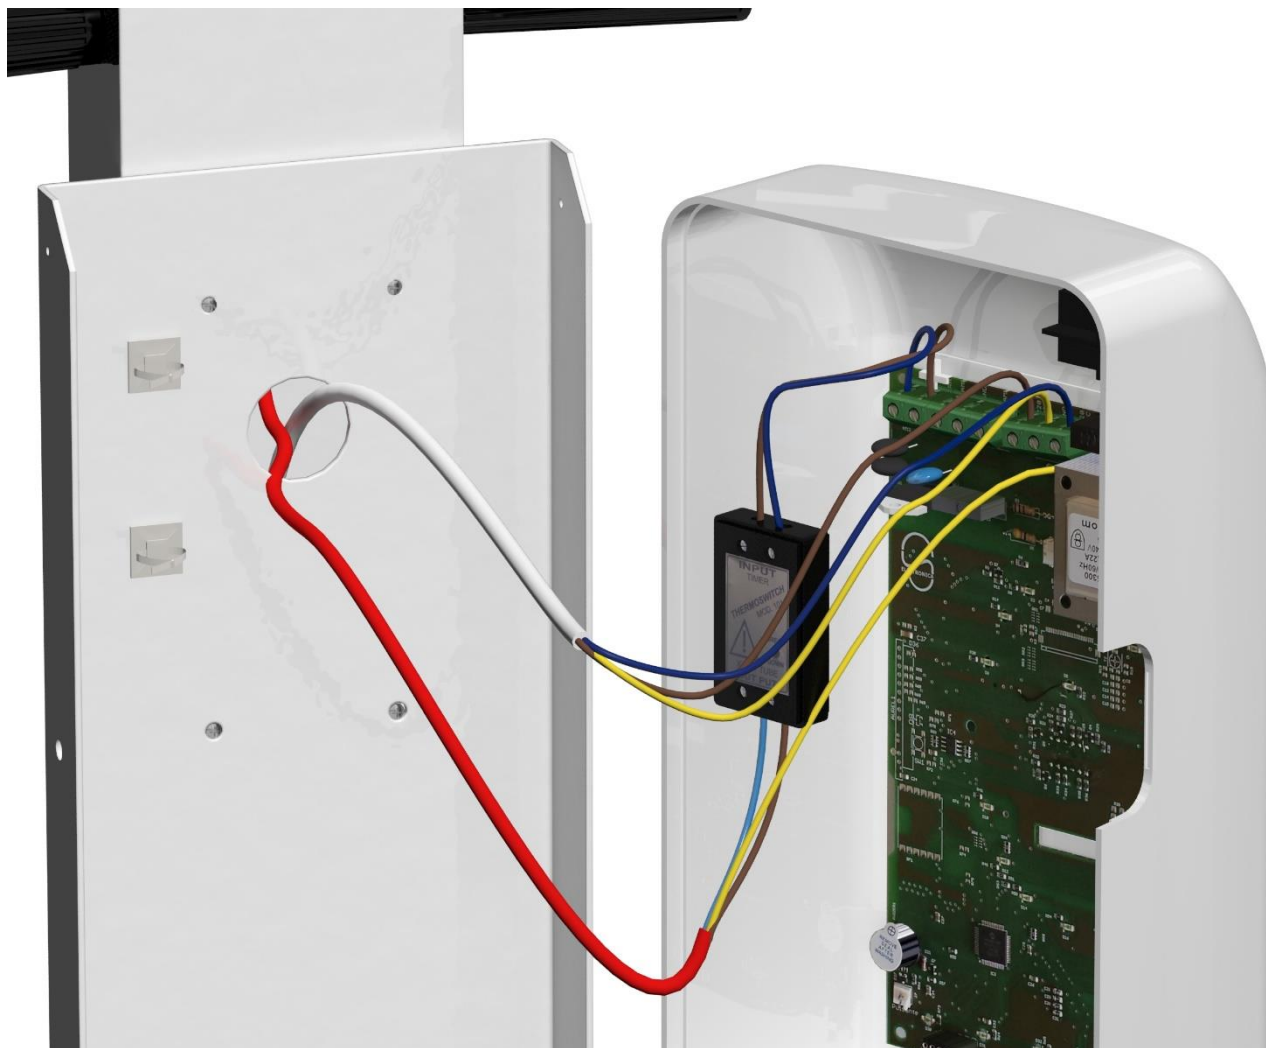

fig. 18
- ✓ Connect the cable coming from the vertical support **(B)** to the input of the timer, and the cable coming from the double pantograph arm **(D)** to the output of the **THERMOSWITCH** as shown in figure 18: